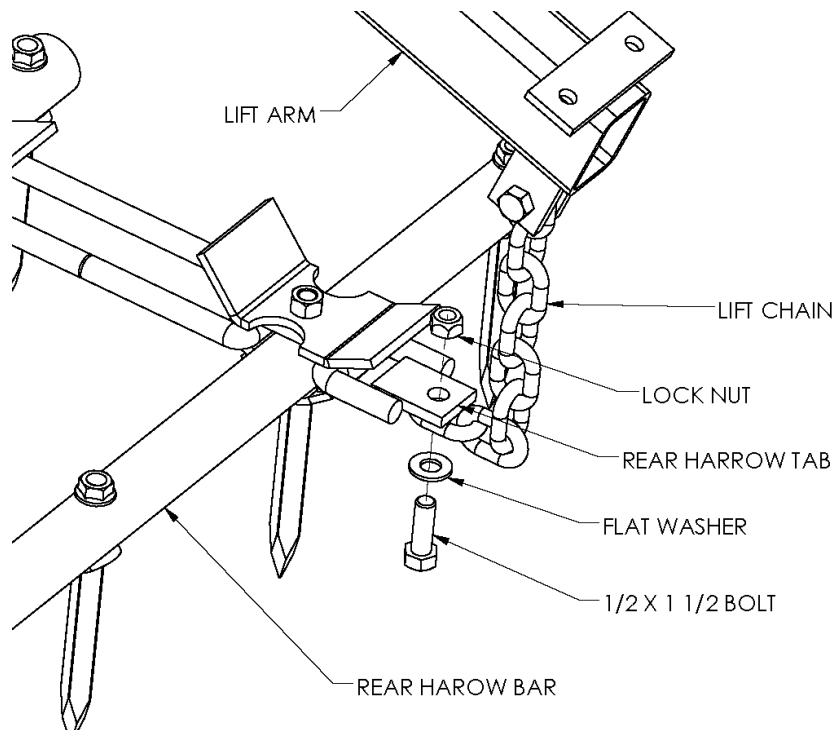

Figure 17
3. Bolt the lift chains to the bottom of the rear lift tabs of the harrow sections. Refer to Figure 17.